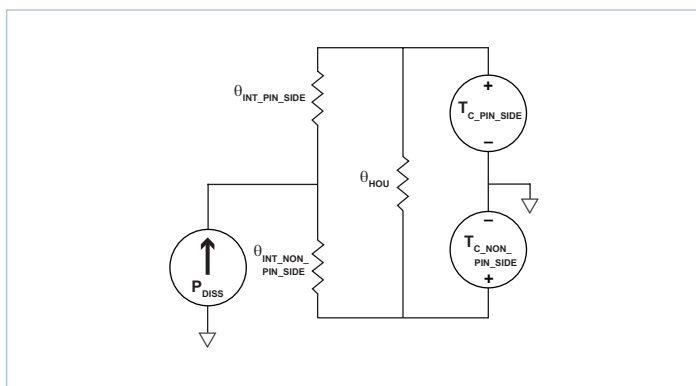
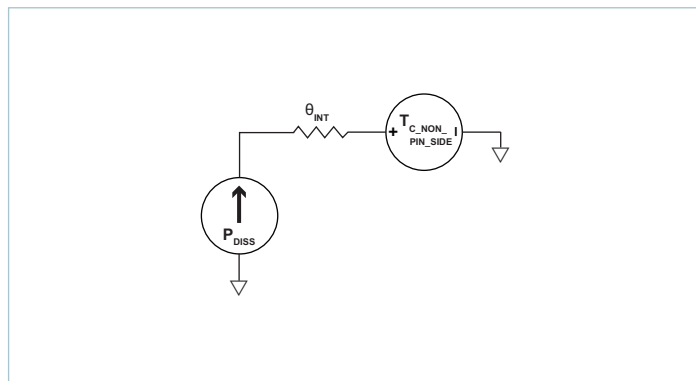

Figure 22 — Double-sided cooling thermal model
Figure 23 — Single-sided cooling thermal model
The VIA package provides effective conduction cooling from either of the two module surfaces. Heat may be removed from the pin-side surface, the non-pin-side surface or both. The extent to which these two surfaces are cooled is a key component for determining the maximum power that can be processed by a BCM, as can be seen from the specified thermal operating area in Figure 1. Since the BCM has a maximum internal temperature rating, it is necessary to estimate this temperature based on a system-level thermal solution. For this purpose, it is helpful to simplify the thermal solution into a roughly equivalent circuit where power dissipation is modeled as a current source, isothermal surface temperatures are represented as voltage sources and the thermal resistances are represented as resistors. Figure 22 shows the “thermal circuit” for the BCM in a VIA package.
- Single-side cooling: the model of Figure 22 can be simplified by calculating the parallel resistor network and using one simple thermal resistance number and the internal power dissipation curves; an example for non-pin-side cooling only is shown in Figure 23.